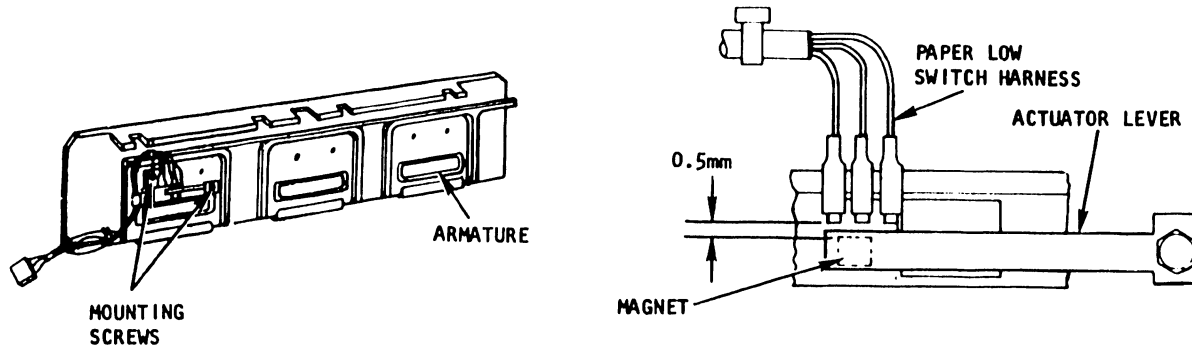

Figure 3-26. 600 LPM and 1000 LPM Paper Low Switch
#### 3.4.15 600 LPM/1000 LPM Paper Low Switch Assembly Removal/Replacement (Figure 3-26)
- c. Using a 5.5mm nut driver, remove the two (2) screws and the washers which secure the paper low switch to the armature or pressure roller mounting. See **figure 3-26**.